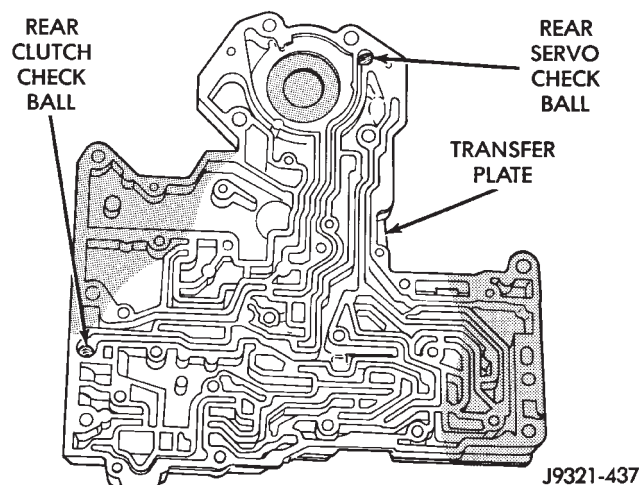

Fig. 61 Rear Clutch And Rear Servo Check Ball Locations
(35) Remove rear clutch and rear servo check balls from transfer plate. Note check ball location for assembly reference (Fig. 61).